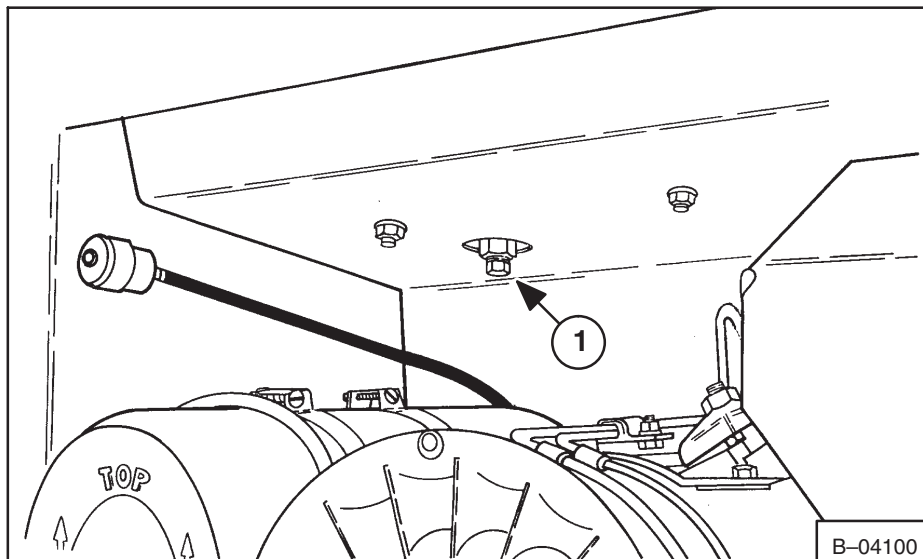
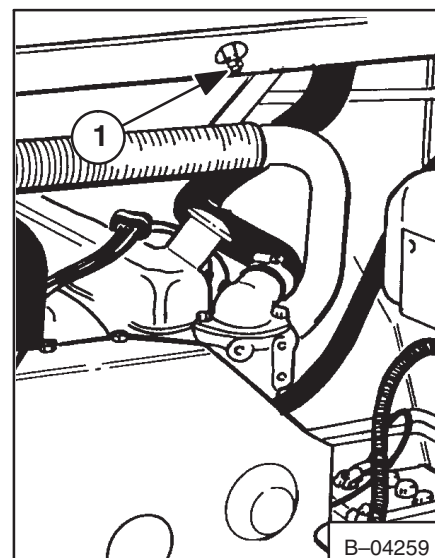
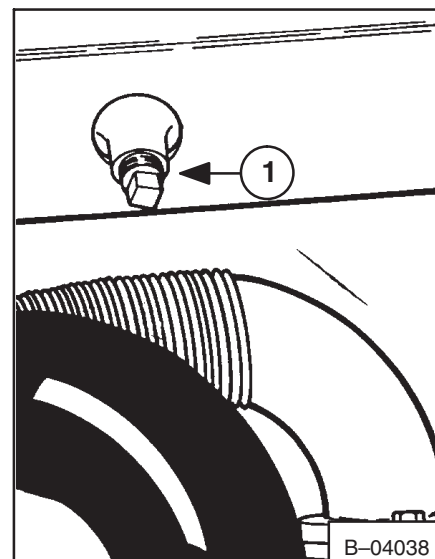

Fig. 1-59 Spark Arrestor Muffler (641)
Fig. 1-60 Spark Arrestor Muffler (642)
Fig. 1-61 Spark Arrestor Muffler (643)
3. Remove the plug at the bottom of the muffler (641, Fig. 1-59, Item 1) (642, Fig. 1-60, Item 1) (643, Fig. 1-61, Item 1).